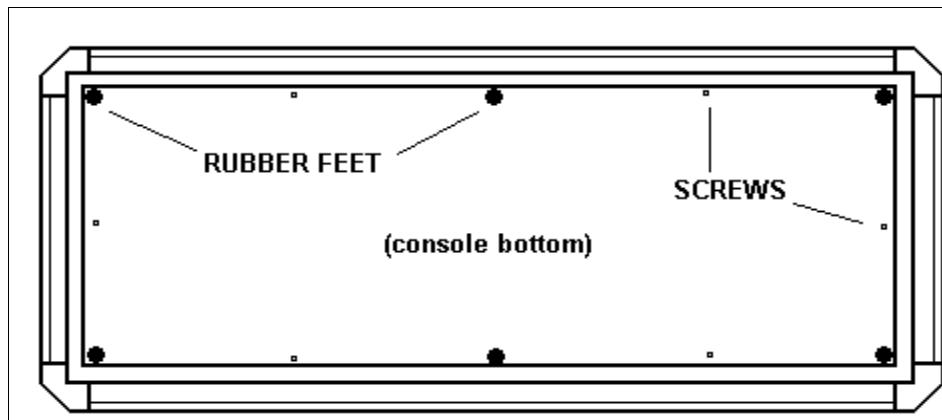

Figure A.6 Bottom of Console
- 3.** With a Phillips screwdriver, remove the rubber feet and screws from the bottom panel. (see Figure A.6)